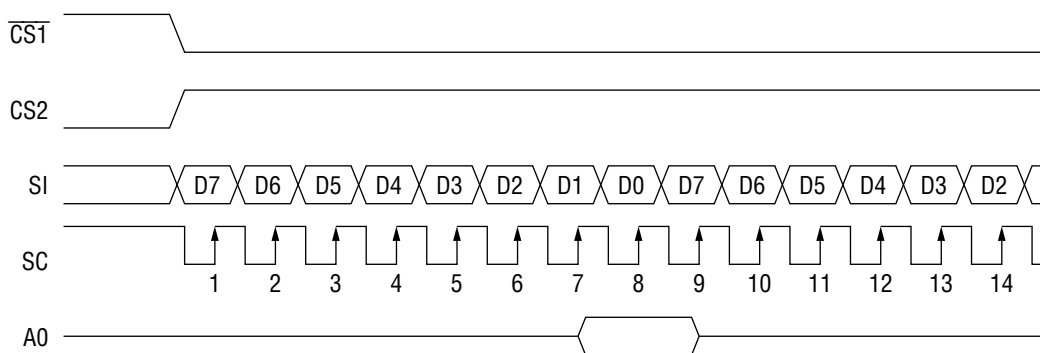

Figure 1
When the serial interface is selected (P/\overline{S} = "L"), the serial data input (SI) and the serial clock input (SCL) can be accepted if the chip is in the active state ($\overline{CS1}$ = "L" and $CS2$ = "H"). The serial interface consists of an 8-bit shift register and a 3-bit counter. The serial data is read in from the serial data input pin in the sequence D7, D6, ... , D0 at the rising edge of the serial clock input, and is converted into parallel data at the rising edge of the 8th serial clock pulse and processed further. The identification of whether the serial data is display data or command is judged based on the A0 input, and the data is treated as display data when A0 is "H" and as command when A0 is "L". The A0 input is read in and identified at the rising edge of the $(8 \times n)$ th serial clock pulse after the chip has become active. Fig. 1 shows the signal chart of the serial interface. (When the chip is not active, the shift register and the counter are reset to their initial states. No data read out is possible in the case of the serial interface. It is necessary to take sufficient care about wiring termination reflection and external noise in the case of the SCL signal. We recommend verification of operation in an actual unit.)